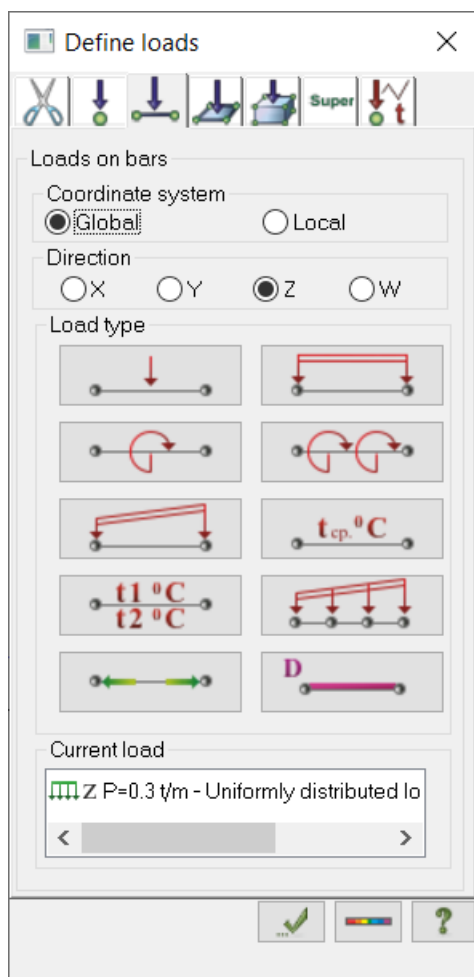

Figure 19.19 Define loads dialog box
*To define loads on nodes and elements, on the **Create and edit** ribbon tab, select the **Loads** panel and click appropriate command from the **Loads on nodes and elements** drop-down list. In the **Define loads** dialog box (see Fig. 19.19) specify appropriate data.*
- ⇒ In the **Define loads** dialog box (see Fig.19.19), specify **Global** coordinate system and direction along the **Z**-axis (default parameters).